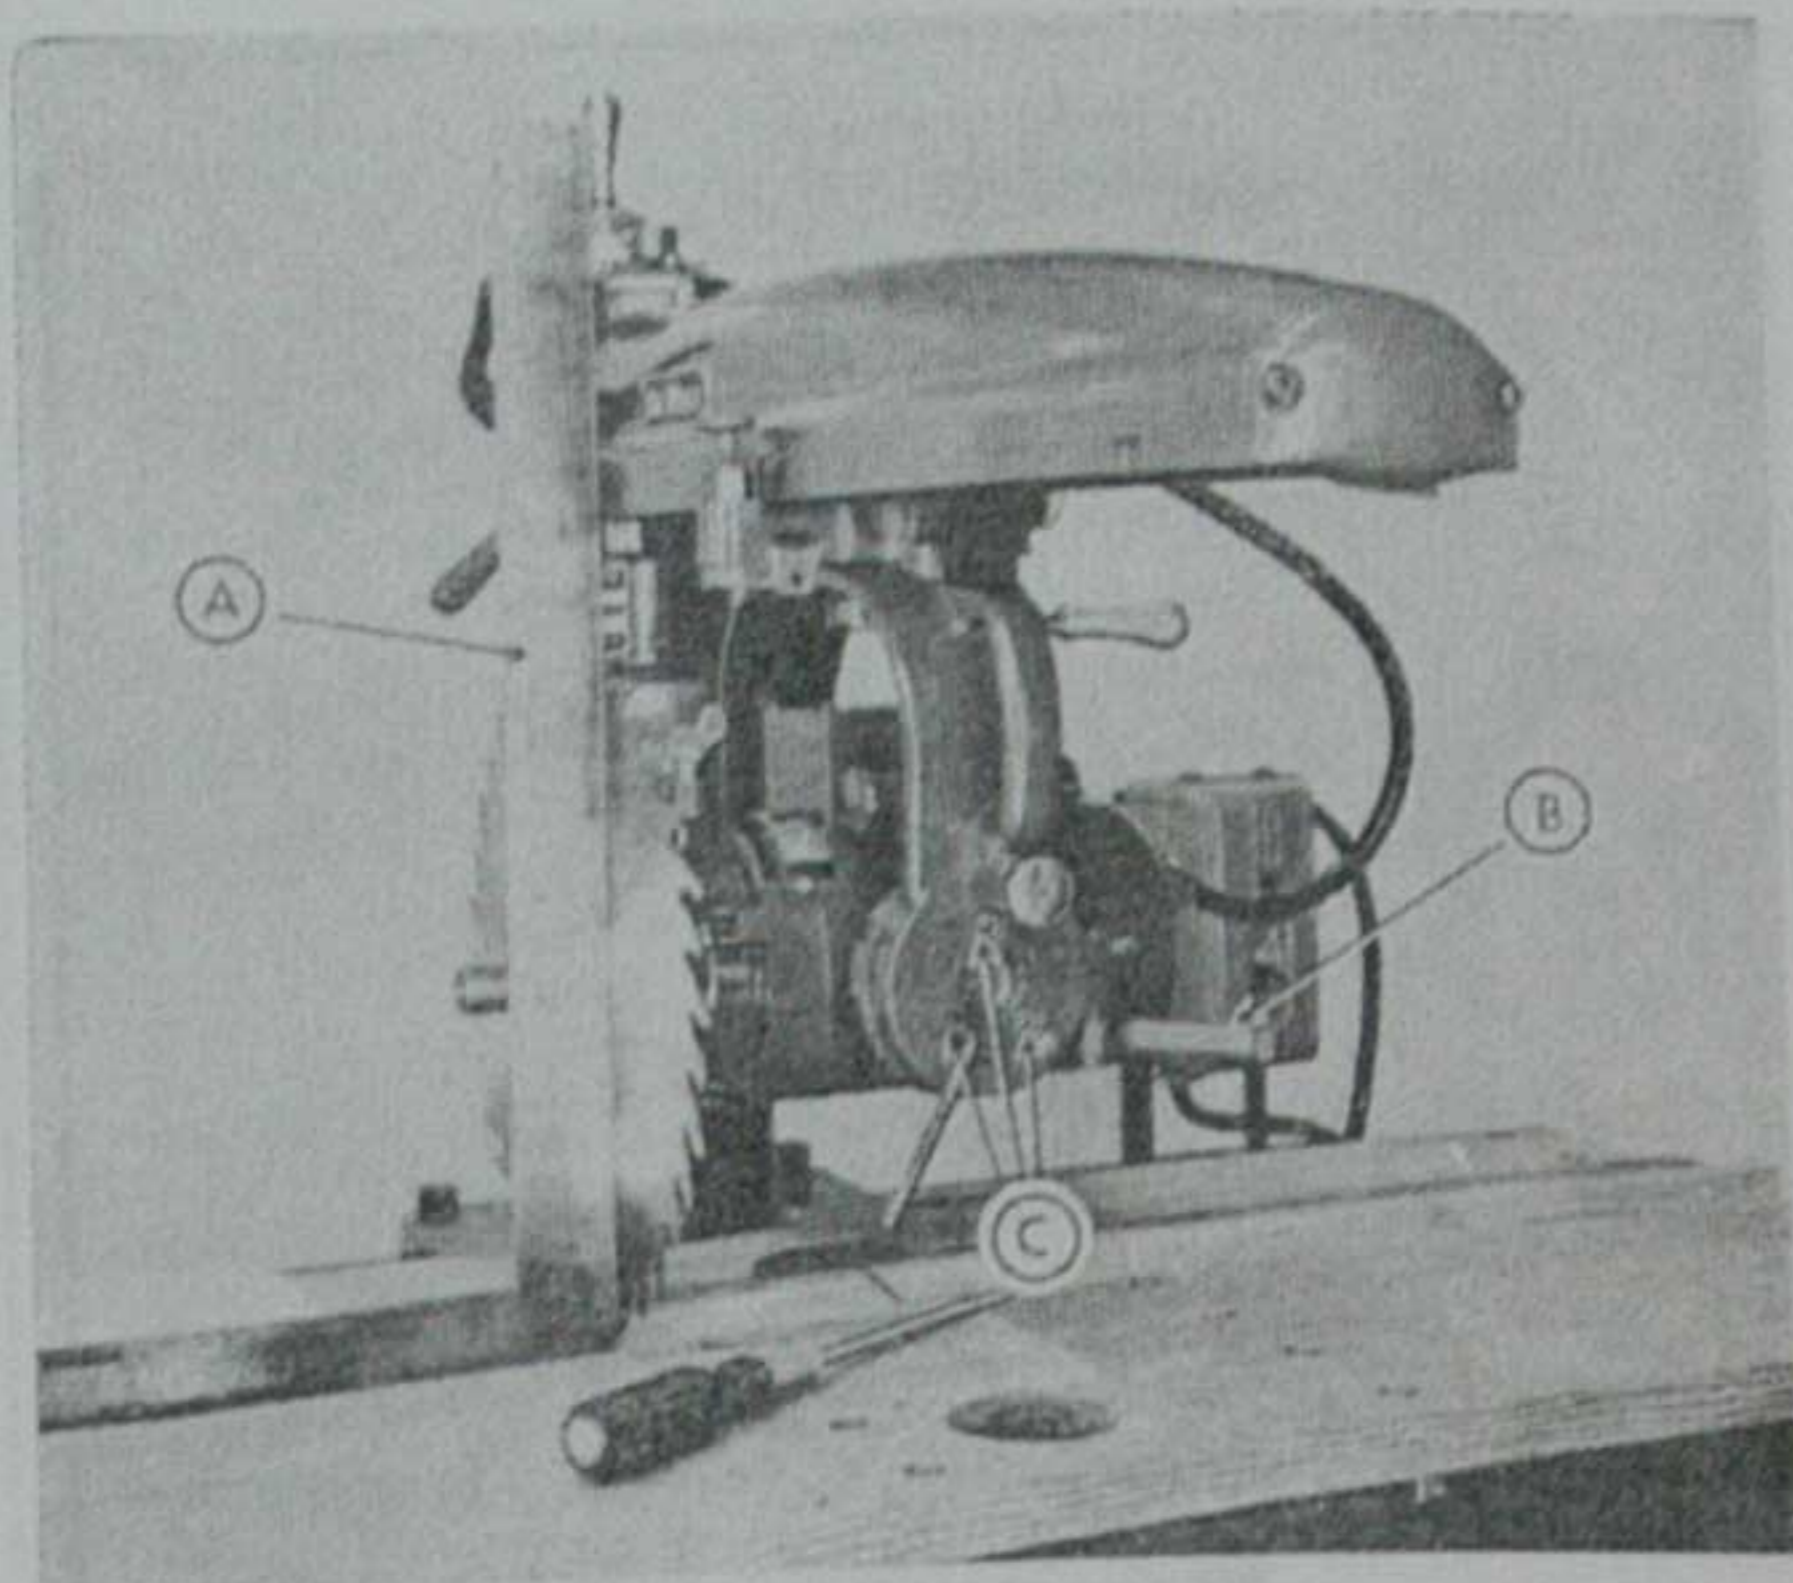

FIGURE 7
1. With the table level, place a steel square (A, figure 7) against the side of the saw blade. Place the square between the gullets and not against the saw teeth.
3. Release the bevel clamp handle (B).
4. Loosen the hollow head set screws (C). It is now possible to move the motor until the saw blade is flush against the square.